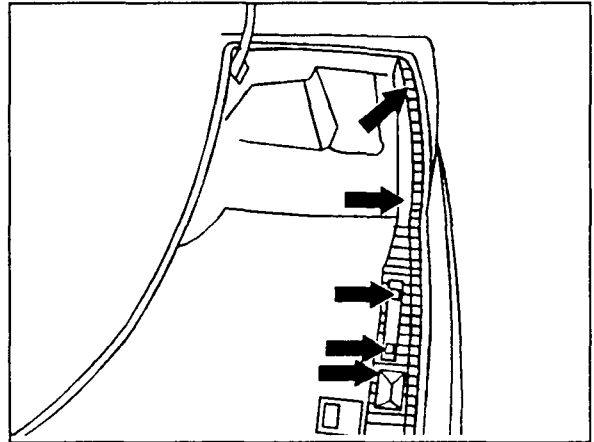

Figure 12
1. Remove fasteners (arrows, Figure 12) and rear trim panel.